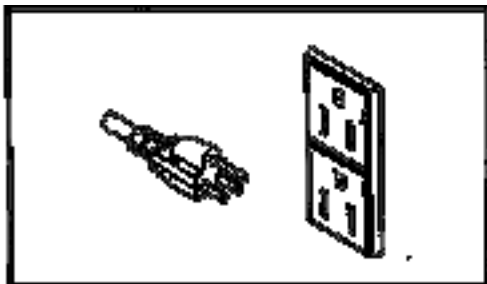

Fig. 5
- ☐ Always use cables that are fitted with a protective conductor or a safety grounding connection. Use "Schuko" type plugs or lacking these, always use plugs that include grounding protection for the cable (figures 5 and 6).
Plug the mains cable into the corresponding mains outlet (Fig. 5, 6).